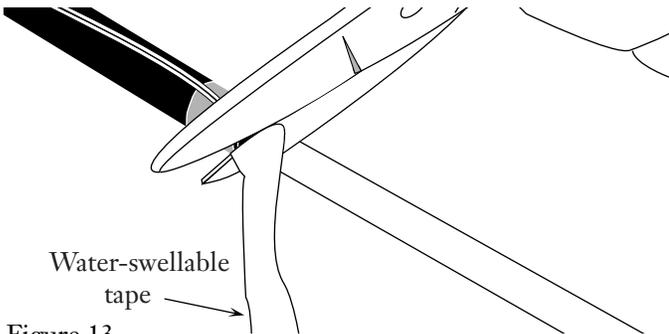

Figure 13
4.14 Using scissors, cut the water-swollable tape as close as possible to the end of the sheath and tape wrap (Figure 13).